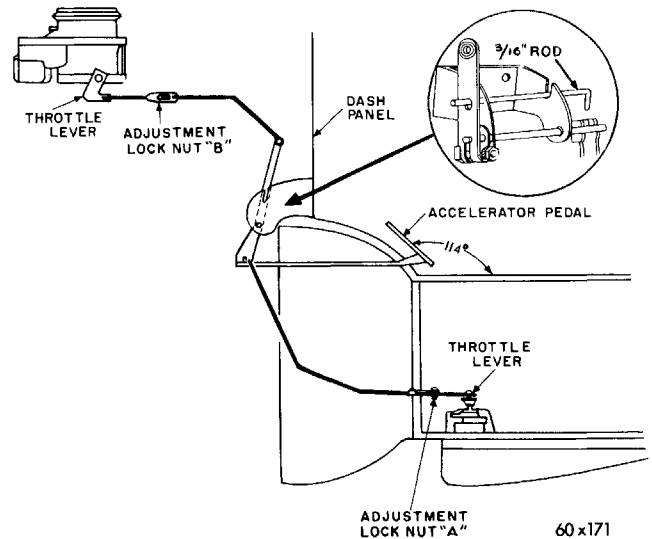

Fig. 4—Throttle Linkage Adjustment
#### Throttle Linkage Adjustments (Refer to Fig. 4)
sembly rod adjusting locknut "A" Figure 4.
(5) Remove rod from accelerator lever, shaft and bracket assembly.
(6) With the carburetor throttle lever off the fast idle cam and against the idle stop screw, move the rear half of the carburetor rod rearward until the stop in the transmission is felt, tighten locknut "B". Figure 4.
(7) The accelerator pedal should be at an angle of 113 to 114 degrees to the horizontal. If necessary to correct, adjust pedal angle by removing the accelerator pedal end of the bell crank to pedal rod, and shortening or lengthening the rod by loosening the lock nut at the swivel end and rotating the swivel. Reinstall the rod and tighten the locknut. **Be sure the rod is properly aligned to prevent binding. Poor engine performance due to carburetor throttle not opening fully or lack of kickdown may result if accelerator pedal angle is incorrect.**